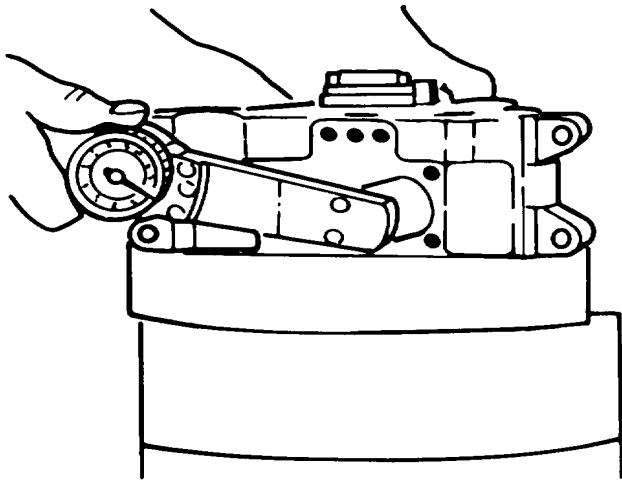

Figure A-37. Installation of Connecting Rod
- (1) Install connecting rod into the crankcase until it seats on the crankshaft. Insert the connecting rod cap through the inspection cover. Torque the connecting rod nuts to 22ft. lbs. Use new nuts whenever the connecting rod cap is removed. (Figure A-37.)